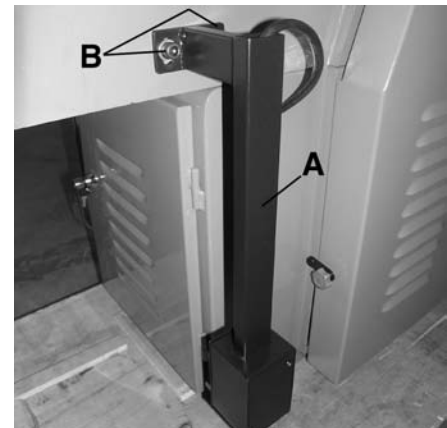
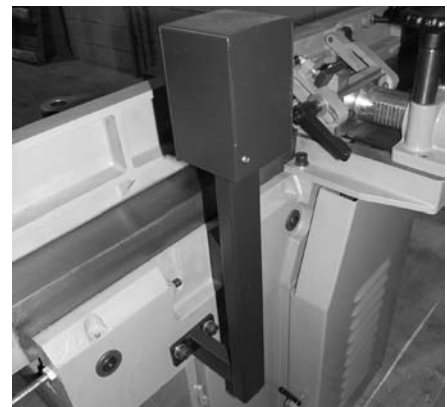

FIGURE 4
FIGURE 5
1. This jointer comes with the on/off switch bracket (A) Fig.4 assembled upside down to protect it during transport. Unbolt the switch bracket at the rear of the jointer by removing the 2 cap screws (B), pivot the bracket 180° and refasten the switch bracket using the same 2 caps crews, see Fig.5.